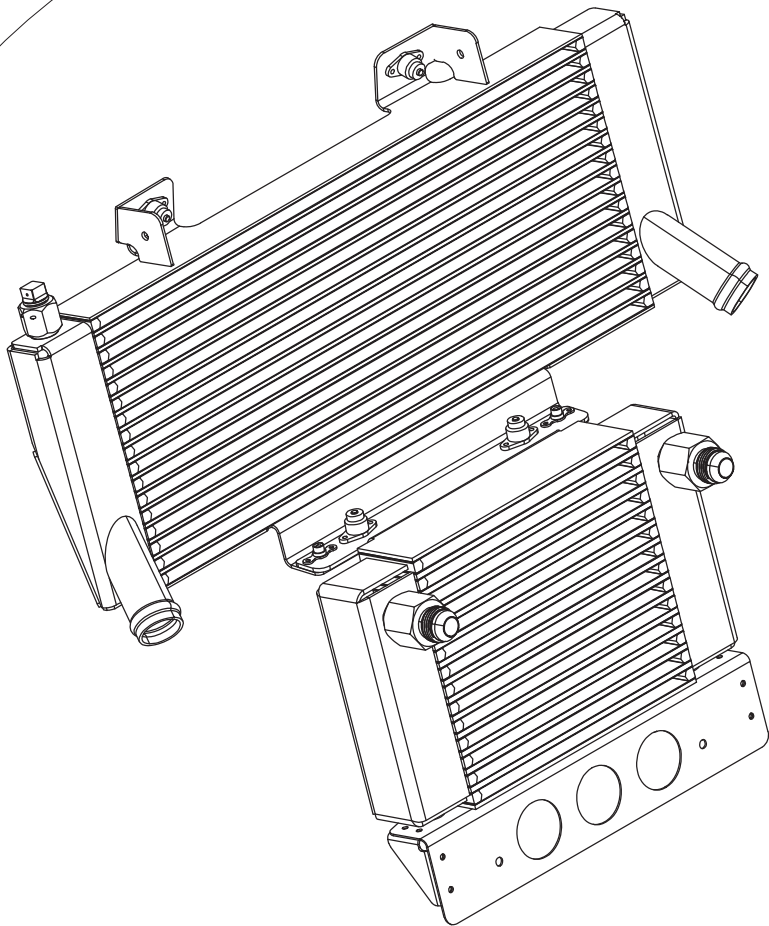

FIGURE 2: ASSEMBLED
Step 4: Install FF-12080-L & -R into FF-12079 using 8x LP4-3 Rivets. Final assembly as shown in Figure 2.